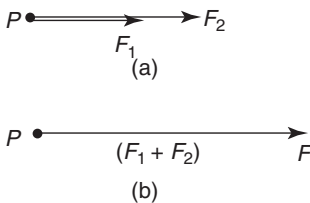

Figure 3.5
- (a) For forces acting in the same direction and having the same line of action, the single force having the same effect as both of the forces, called the **resultant force** or just the **resultant**, is the arithmetic sum of the separate forces. Forces of  $F_1$  and  $F_2$  acting at point  $P$ , as shown in Figure 3.5(a), have exactly the same effect on point  $P$  as force  $F$  shown in Figure 3.5(b), where  $F = F_1 + F_2$  and acts in the same direction as  $F_1$  and  $F_2$ . Thus  $F$  is the resultant of  $F_1$  and  $F_2$